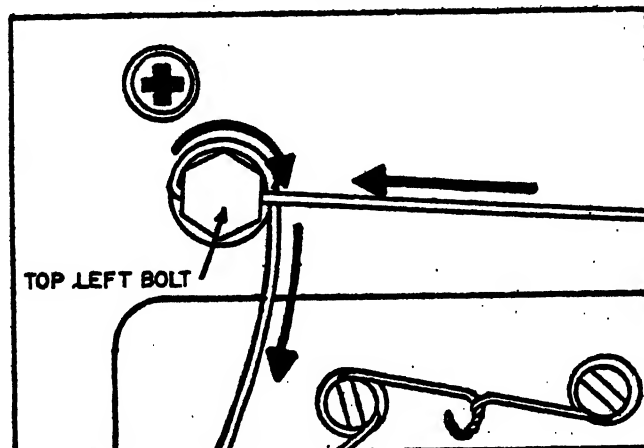

FIGURE 21
- Bend the left wire around the top of the bolt CLOCKWISE and down BEHIND the wire on the right side. See figure 21.